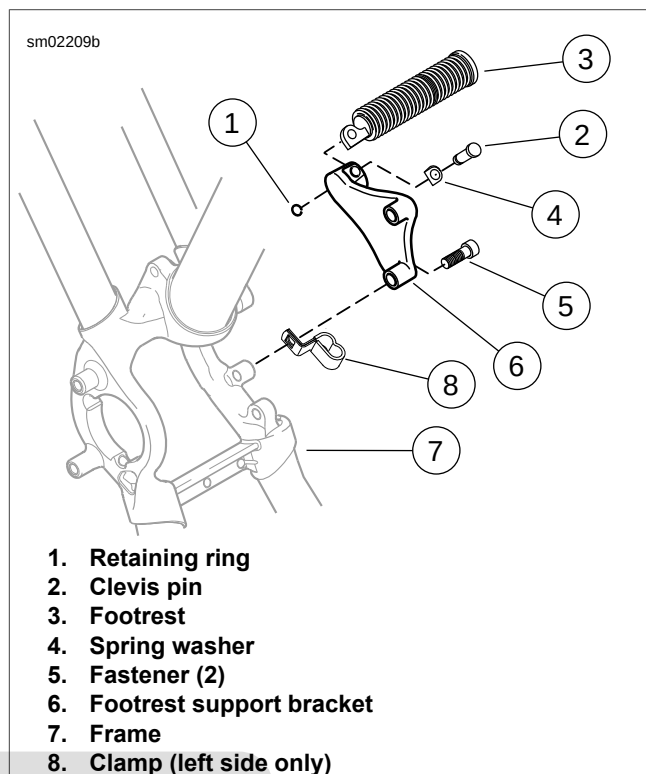

Figure 2-238. Passenger Footrest Assembly (optional on some models)
1. See Figure 2-238. Remove retaining ring (1), clevis pin (2), footrest (3) and spring washer (4). Discard retaining ring.
2. Remove two screws (5) and footrest support bracket (6) from frame (7).
See Figure 2-238. Position clamp (8) between the left footrest support bracket (6) and the lower support bracket hole in the frame.
1. See Figure 2-238. Attach footrest support bracket (6) to frame (7) with two fasteners (5). Tighten to 45-50 ft-lbs (61-68 Nm).
2. Install footrest (3) on footrest support bracket with spring washer (4). Make sure spring washer is positioned inside support bracket mounting boss with the square edge toward the inside.
3. Align holes and push clevis pin (2) from top down through hole in support bracket. Secure with **new** retaining ring (1).